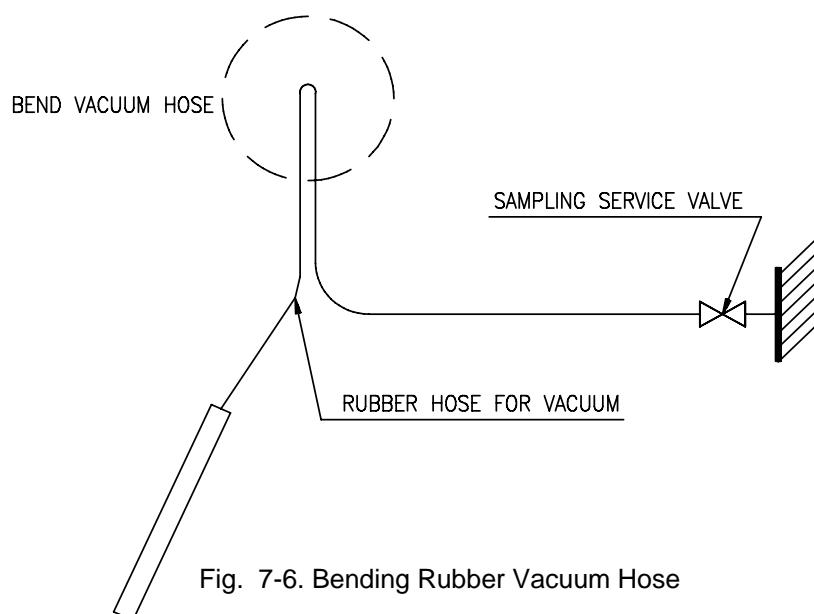

Fig. 7-6. Bending Rubber Vacuum Hose
- (8) When the container become more or less empty, bent the rubber vacuum hose with both hands to ensure that air does not leak in, and quickly insert it in the next container. (Fig. 7-6.)
- (9) Repeat steps (6) to (8) until all containers have been emptied.
- (10) Once the required amount of solution has been charged close up the sampling service valve.
- (11) Remove the rubber vacuum hose from the sampling service valve, and put the cap on the service valve.
- (12) Stop the vacuum pump.
- (13) Wash the rubber vacuum hose, etc. with water.
- (14) Continue air purging for 30 minutes after completion of this work.
- (15) Neatly arrange the containers and equipment used.